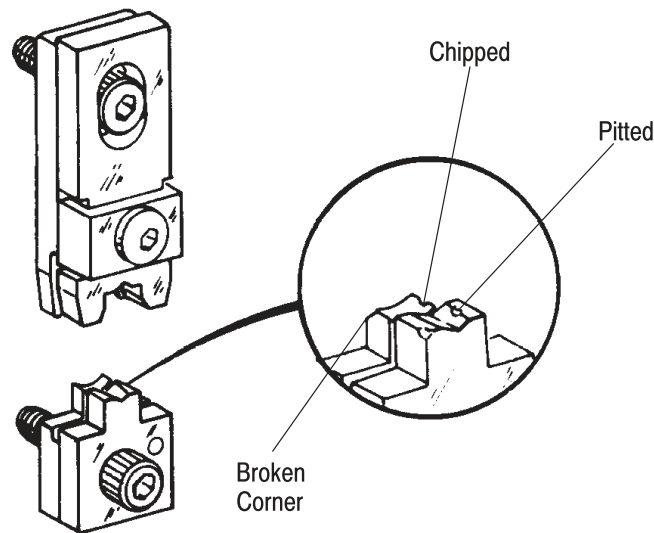

Figure 14
3. Visually inspect the die crimping surfaces for flattened, broken, or chipped conditions. Worn or damaged crimping surfaces are objectionable and can affect the quality of the crimp. Refer to Figure 14 for examples of possible damage.